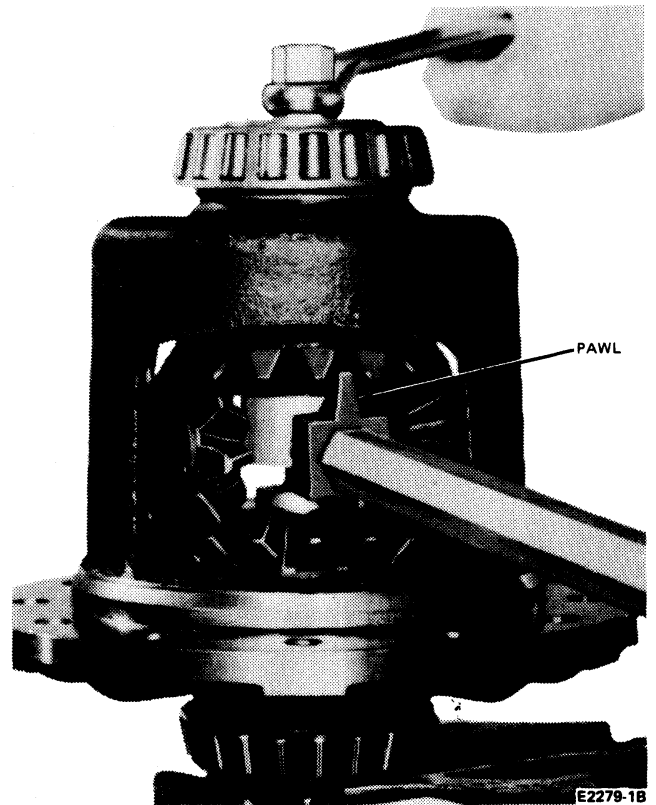

FIG. 10 Rotating Tool Pawl in Position
9. Slide the pawl of the gear rotating tool (Fig. 10) between two of the side gear teeth. Pull the handle so the top side gear will rotate and also allow the differential pinion gears to rotate. Continue this until the differential pinion gears can be removed